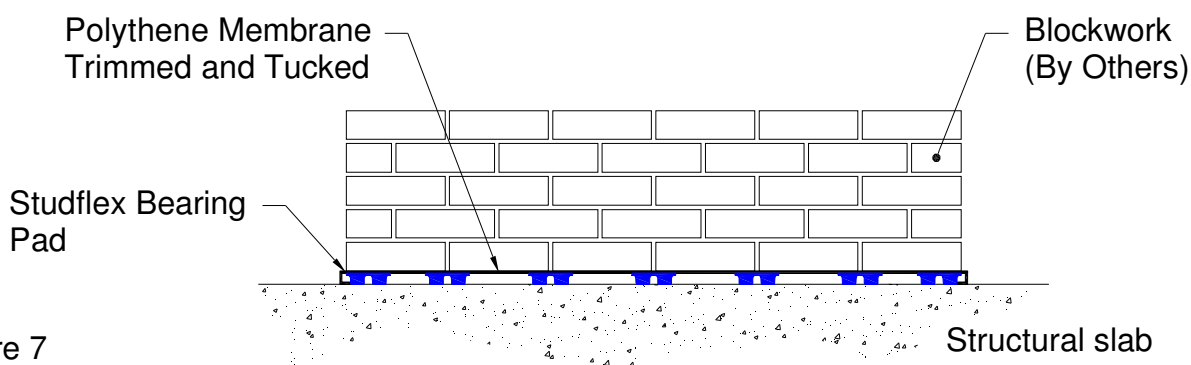

Figure 7
- 9) Once all blockwork has been completed remove any debris and mortar snots from around or between the pads to prevent possible vibration short circuits, cut back polythene as necessary and tuck to provide future protection against the ingress of debris (See Figure 7).